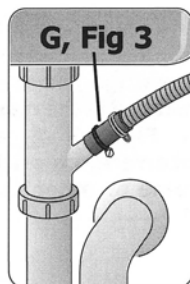

Figure 14
- Use the hose clamps and rubber connection hose (Figure 3) to connect the drain hose to the sink, disposer or air gap (Figure 14).